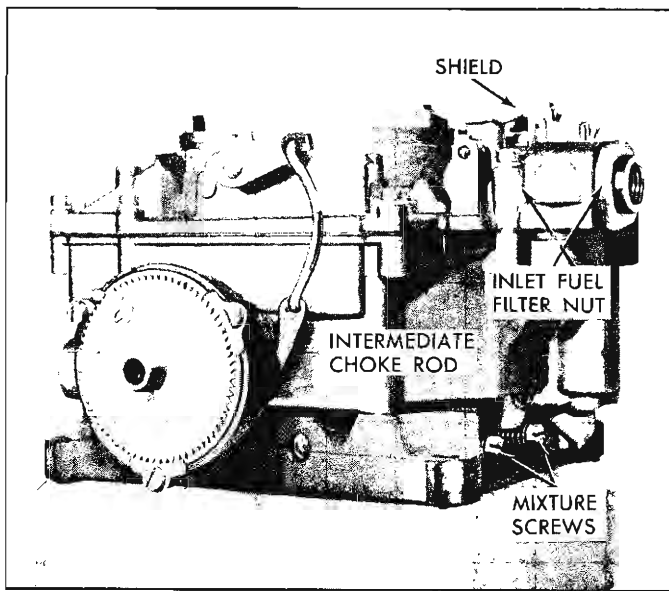

Fig. 37—Rochester "4GC" Carburetor
1. To obtain initial adjustment, set idle mixture screws (fig. 37) 1 to 1½ turns off of seat.